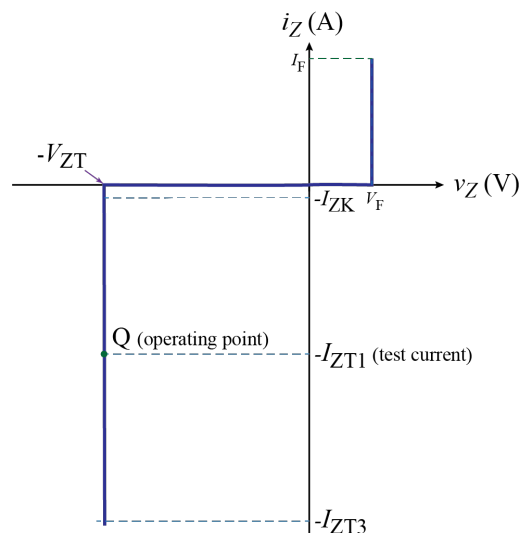

Fig. 5: Zener diode characteristic curve.
- 1) (5 pts) Characterize allowed current changes for the Zener diode. Fig. 5 shows the Zener diode i-v curve we use for design. The model is a reverse voltage drop, $V_{ZT} = 10V$. This model is only valid between some minimum and maximum Zener diode current. Use the On Semi datasheet for the BZX84C10L to find a values you can use for the minimum current limit. Here are some hints for determining the value: